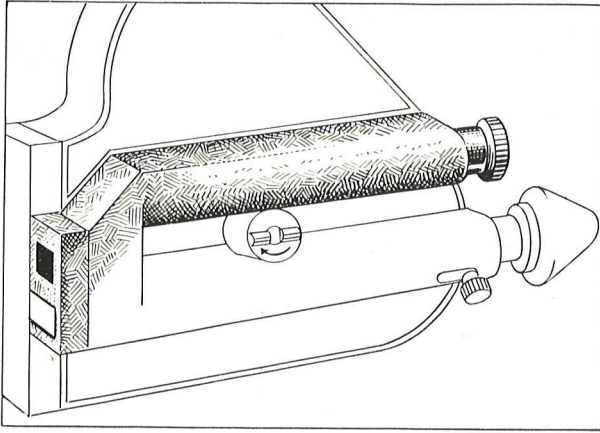

Fig. 5
### 1. Direct or clear viewfinder (fig. 5).
The diverging lens (19) is used to determine the field of view of the various lenses (fig. 5 and 7).